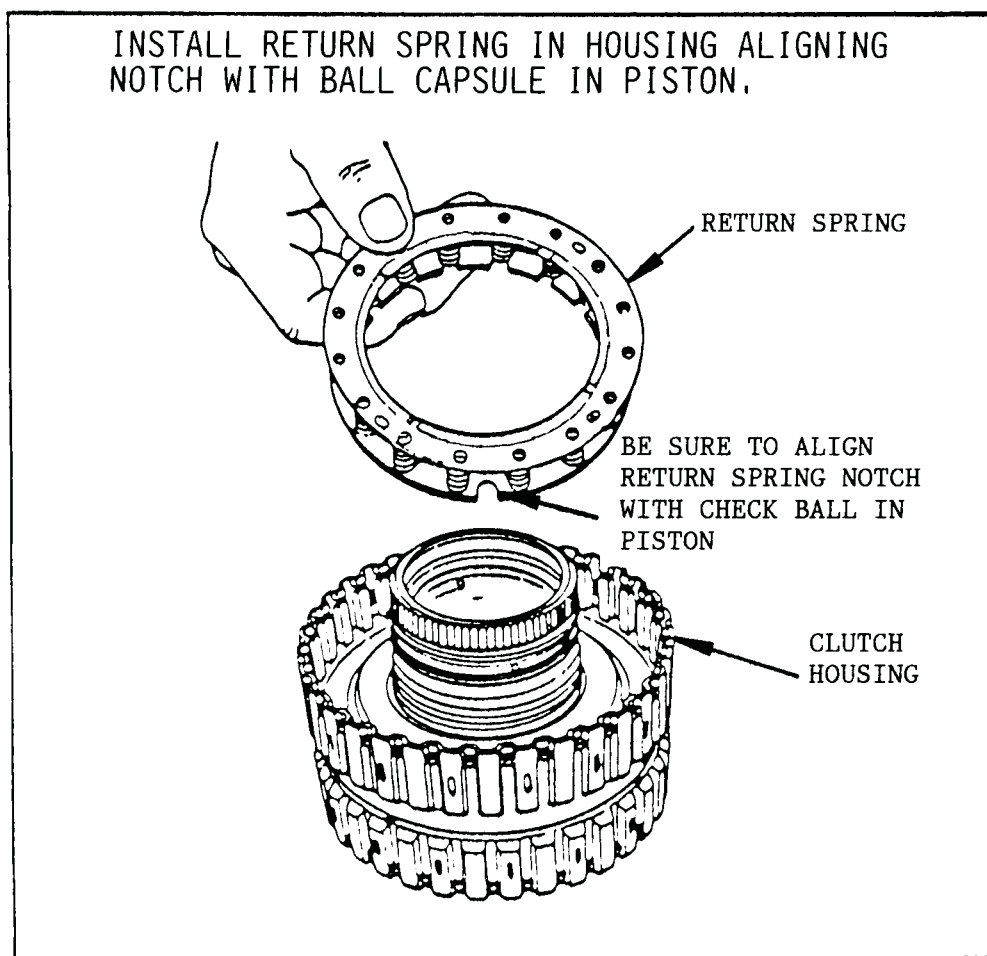

Figure 41
- CORRECTION:** Special care must be taken during the overhaul operation when re-assembling the direct clutch return spring over the direct clutch piston. Make sure that the notch in the spring bottom retainer (See Figure 41) is positioned properly over the check ball capsule so as not to block or restrict oil flow of the check ball assembly. Refer to Figure 41.